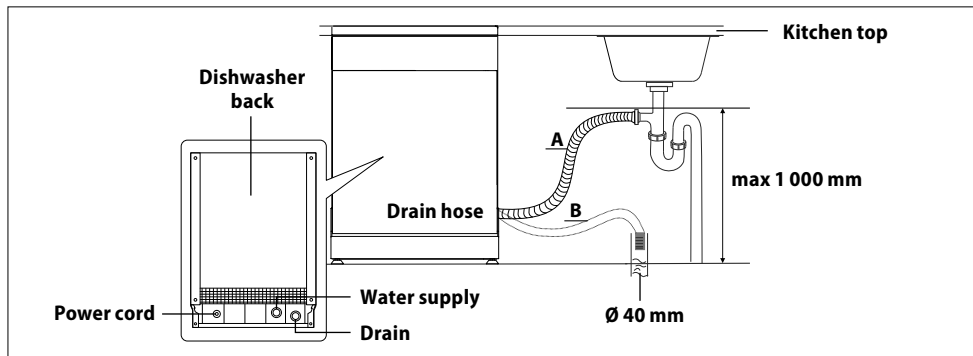

Fig. 18
5. Connect the drain hose according to Fig. 18.
Connect the drain hose to the waste pipe with a minimum diameter: 40 mm (Fig. 18). Make sure the drain hose is not bent or squeezed to prevent slowing down or stopping of the water flow.
The height of the waste pipe must be less than 1,000 mm (Fig. 18) and the drain hose should not be submerged in water. Secure the drain hose properly to prevent unwanted loosening from the waste pipe.